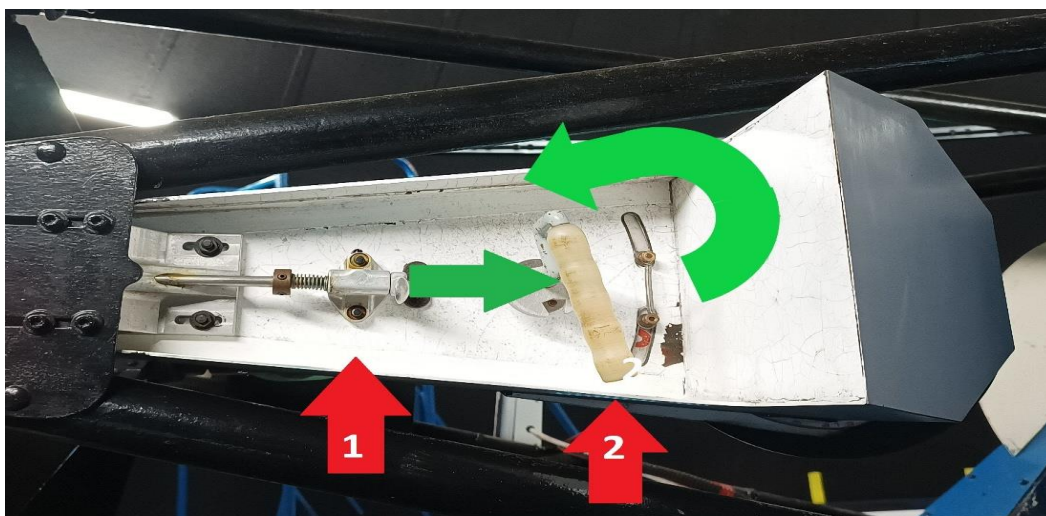

Fig. 12: Secondary Mirror Cover (shown in the open position)
Slide the unlocking lever (1) in direction as shown by green arrow on fig. 12, and at same time twist handle (2) 90 degrees to unlock from around the mirror and pull handle (2) towards you. NB that when the lever is in the open position, the clamps holding the cover onto the secondary will be fully extended – the arm should swing open (towards you) freely with no friction or difficulty. Do not attempt to 'pull' the arm free if you feel any obstruction!